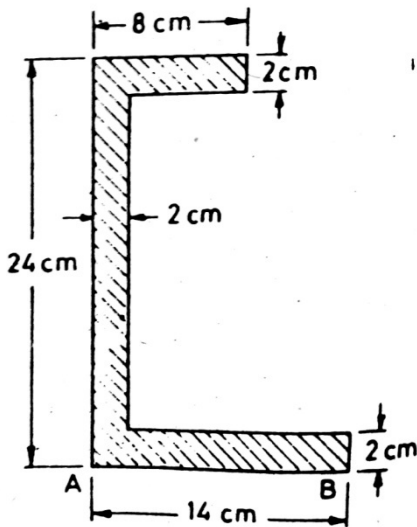

Figure 3.14
14. Determine the moments of inertia of the cross section of an iron beam with respect to the centroidal axes parallel and perpendicular to the axis AB as shown in Figure 3.14.